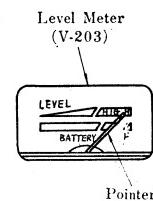

Fig. 5
1. Set power source voltage to 12V (DC).
3. Adjust 50KΩ potentiometer (R₂₄) so that the pointer of the Level Meter stays as shown in Fig. 5.